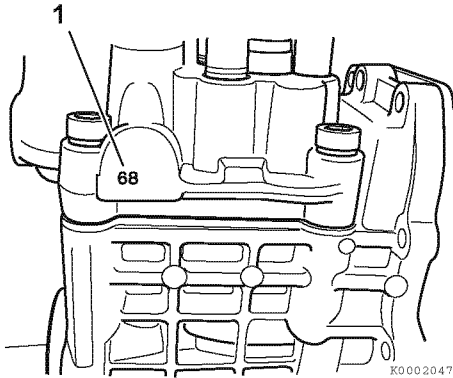

Figure 7-24
- Calculate the difference between the timing index numbers (**Figure 7-24, (1)**) of the fuel injection pump that you removed and the replacement fuel injection pump. See *Calculation example below.*